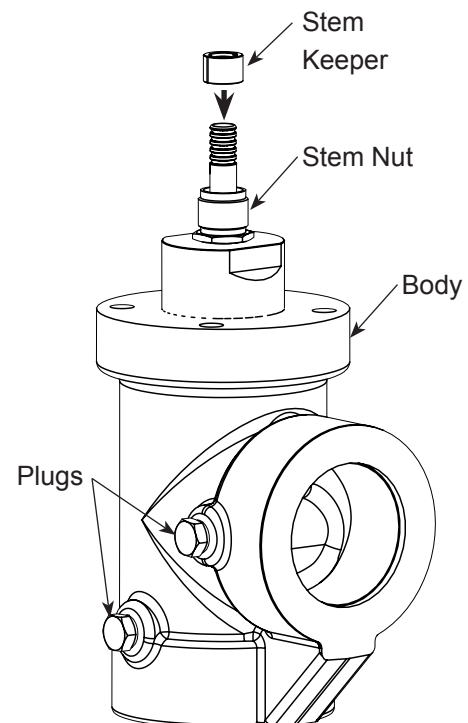

Fig. 5-2
Release the pressure from the valve. See Fig. 5-2
Install the Stem Nut and place over the Stem of the Packing Box Assembly See Fig. 5-2
- 3.) Make sure the end of the Stem Nut is flush with the end of the Keeper set. Apply a couple drops of Loctite™ to the threads of the Stem Nut. See Fig. 5-2.